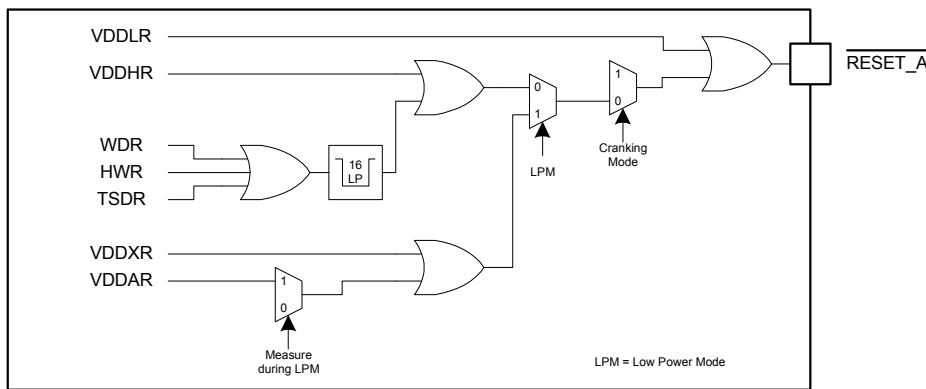

Figure 41. Analog die reset implementation
- The Voltage at the LTO, VDDH, VDDX, or VDDA has dropped below its reset threshold level. The source will be indicated for the LTO by the LVRF + HVRF, for the VDDA by the AVRF, and for the VDDH by the HVRF bit. VDDX resets are not indicated via individual reset flags. See Figure 41 for dependencies.